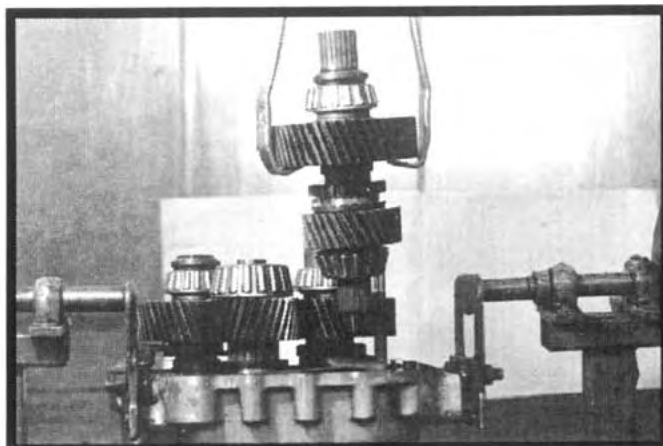

Figure 6.34
10. Lower the input shaft subassembly into place (smaller gear downward). See Figure 6.34.